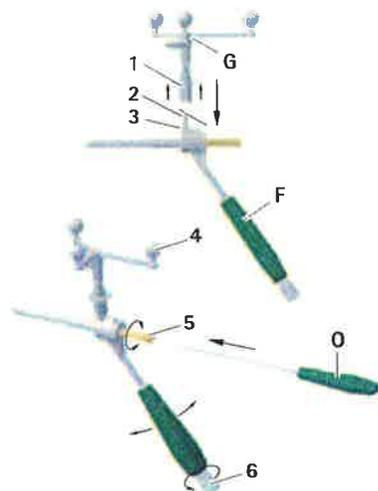

Fig. 1 Mounting the Aesculap star unit on S4C drill guide FW654R
- To ensure the camera has an unrestricted view on the reflective marker spheres, unscrew knob 6 on the handle of the S4C drill guide F and turn the Aesculap star unit G to the desired position, see Fig. 1.